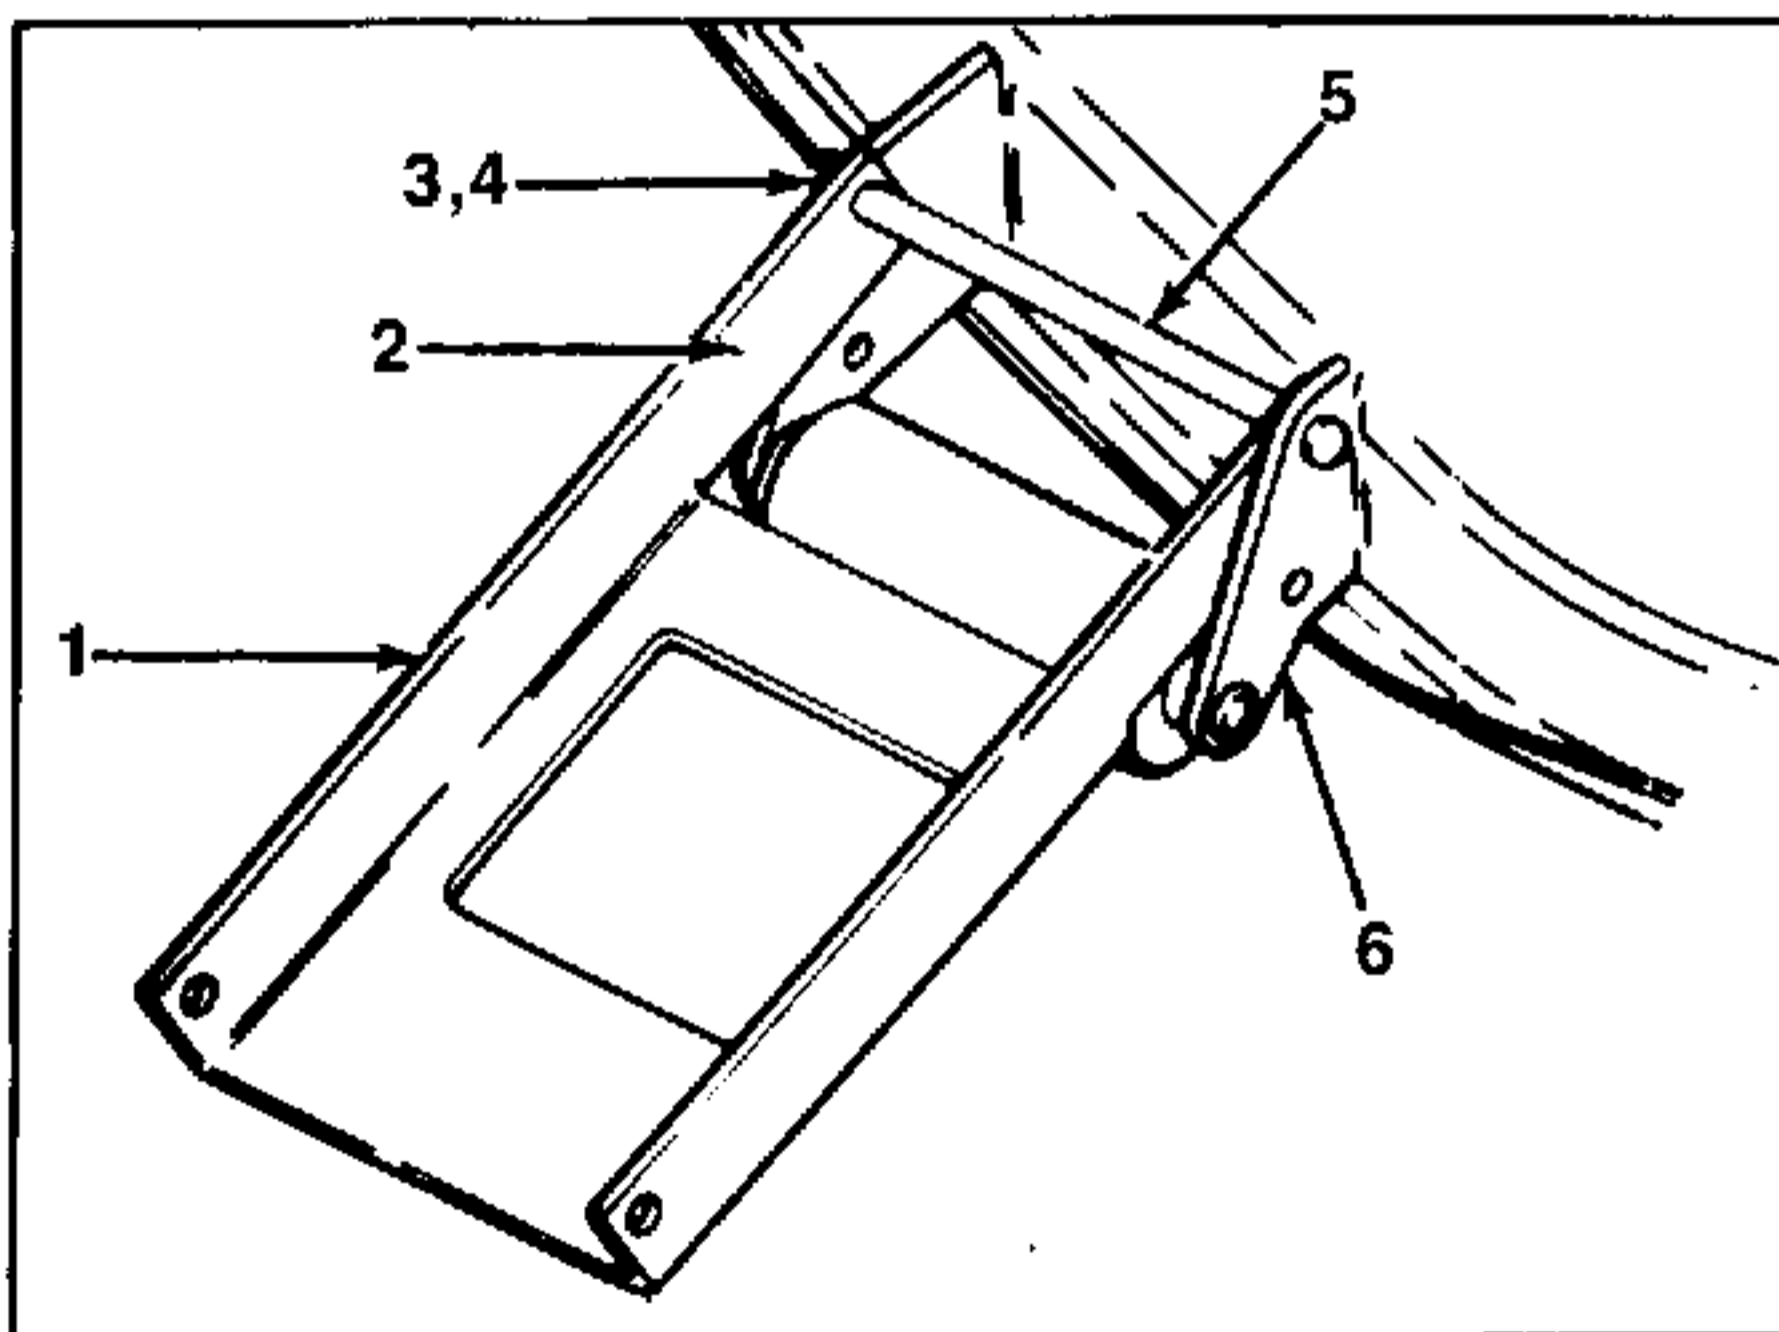

FIGURE 8.
- Refer to figure 8 to determine the proper positioning of the front hanger assembly in relation to the tractor and deck. Note that when the front hanger assembly is properly positioned, the hanger extensions face the rear of the tractor, and the top hole of the front hanger assembly is open. Attach the rear of the front hanger assembly to the top of the